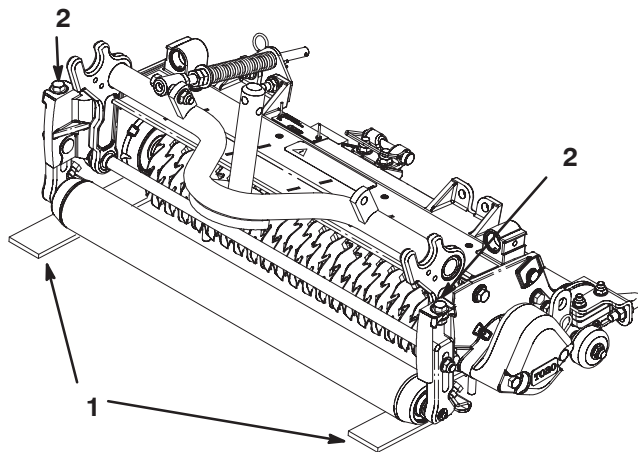

Figure 3
2. Place 2 gauge bars, which have the desired depth of blade penetration below the ground, under the front and rear rollers of the verticutter reel (on each end of the reel) (Fig. 3).
3. Turn the adjusting bolt on each height-of-cut bracket (Fig. 3) so that the reel blades come in contact with the level surface on both ends.